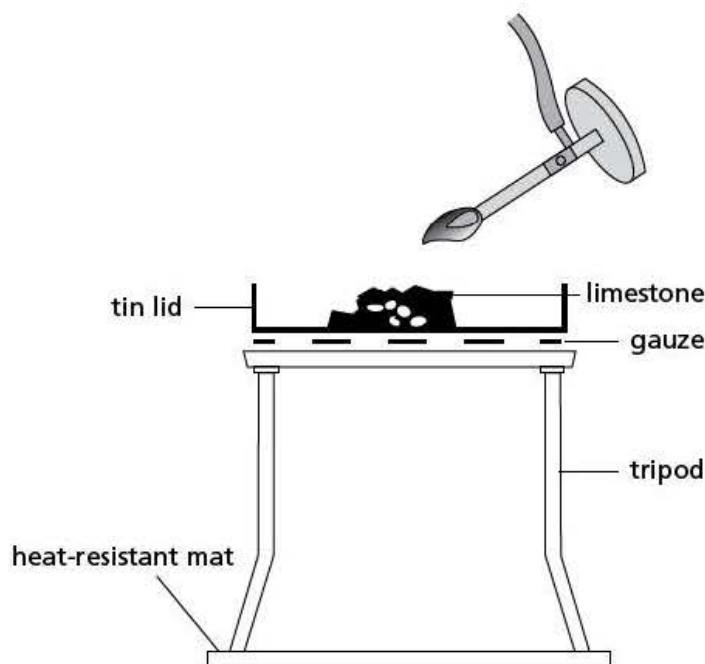

Figure 2 Heating limestone pieces
- 3 Set up the apparatus as shown in Figure 2 and heat the limestone pieces very strongly from above for 10 minutes. Record your observations in Table 1.